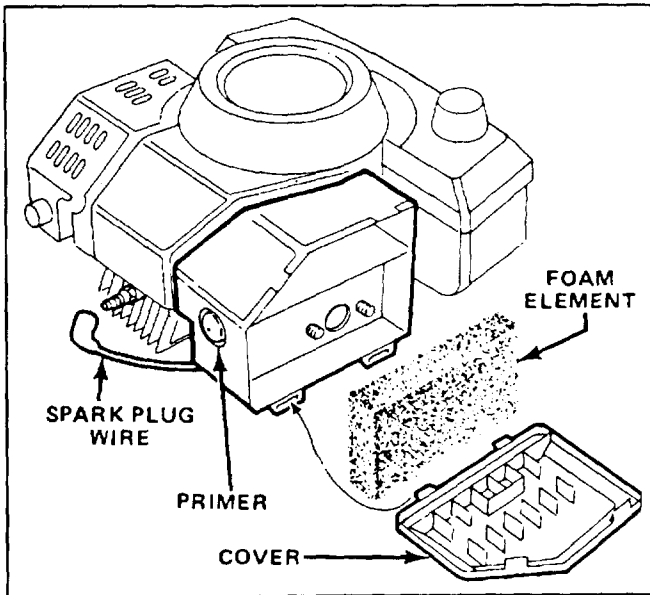

Figure 8
2. Push spark plug wire onto spark plug (Fig. 8).
5. Cover hole in center of primer with thumb and push once (Fig. 8).
1. Stop engine and pull wire off spark plug (Fig. 8).
2. Lift tabs at top of air cleaner cover and pivot cover down. Clean cover thoroughly (Fig. 8).
3. If outside of foam element is dirty, remove it from air cleaner body (Fig. 8). Clean thoroughly.